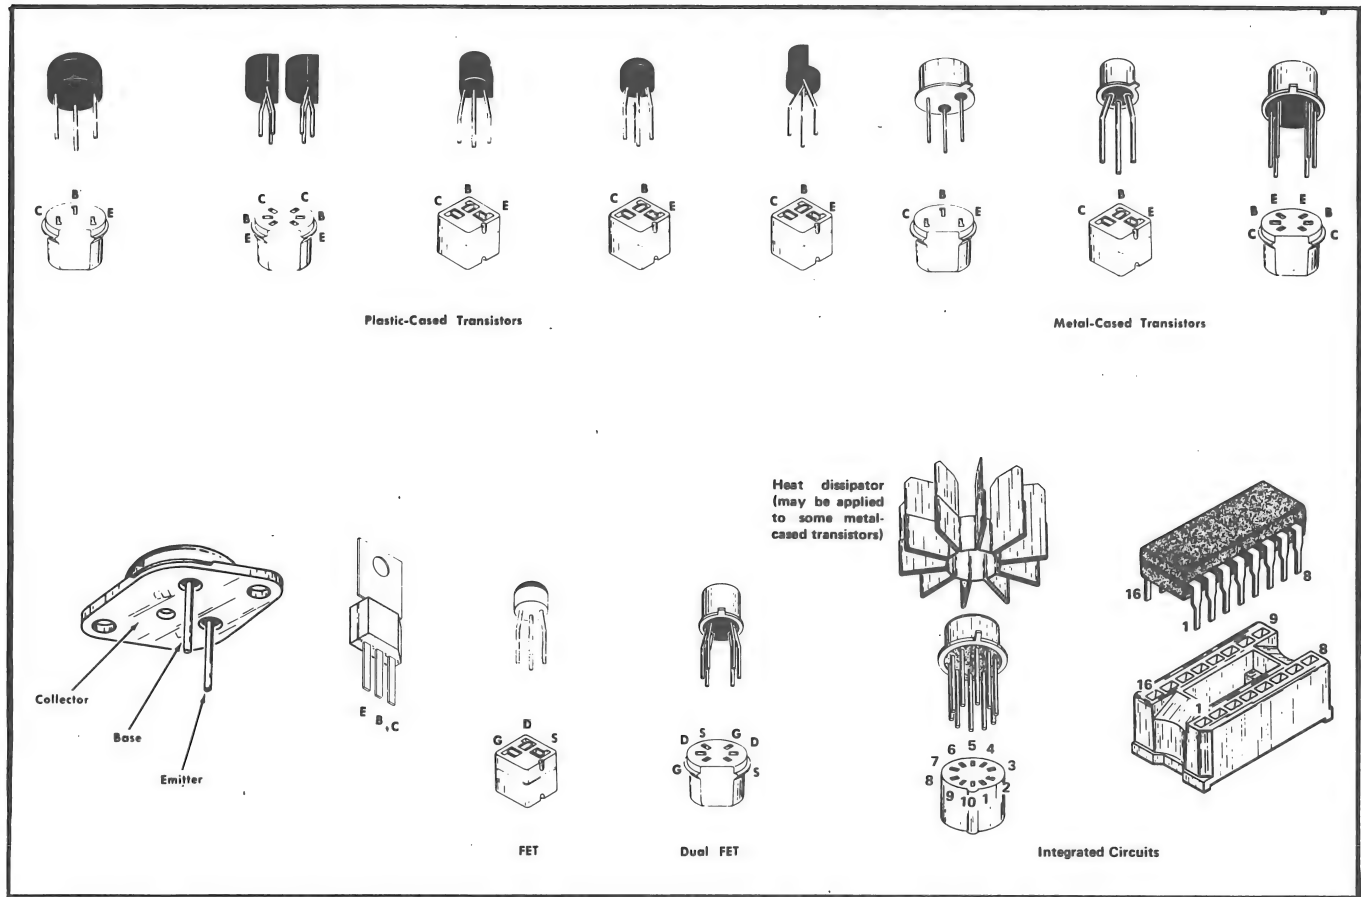

Fig. 3-1. Electrode configuration data for semiconductor devices.
**Semiconductor Lead Configuration.** Fig. 3-1 shows the lead configuration of the semiconductor devices used in this instrument.
Replacement semiconductors should be of the original type or a direct replacement. Fig. 3-1 shows the lead configuration of the semiconductors used in this instrument. When removing soldered-in transistors, use a suction-type de-soldering tool to remove the solder from the holes in the circuit board.